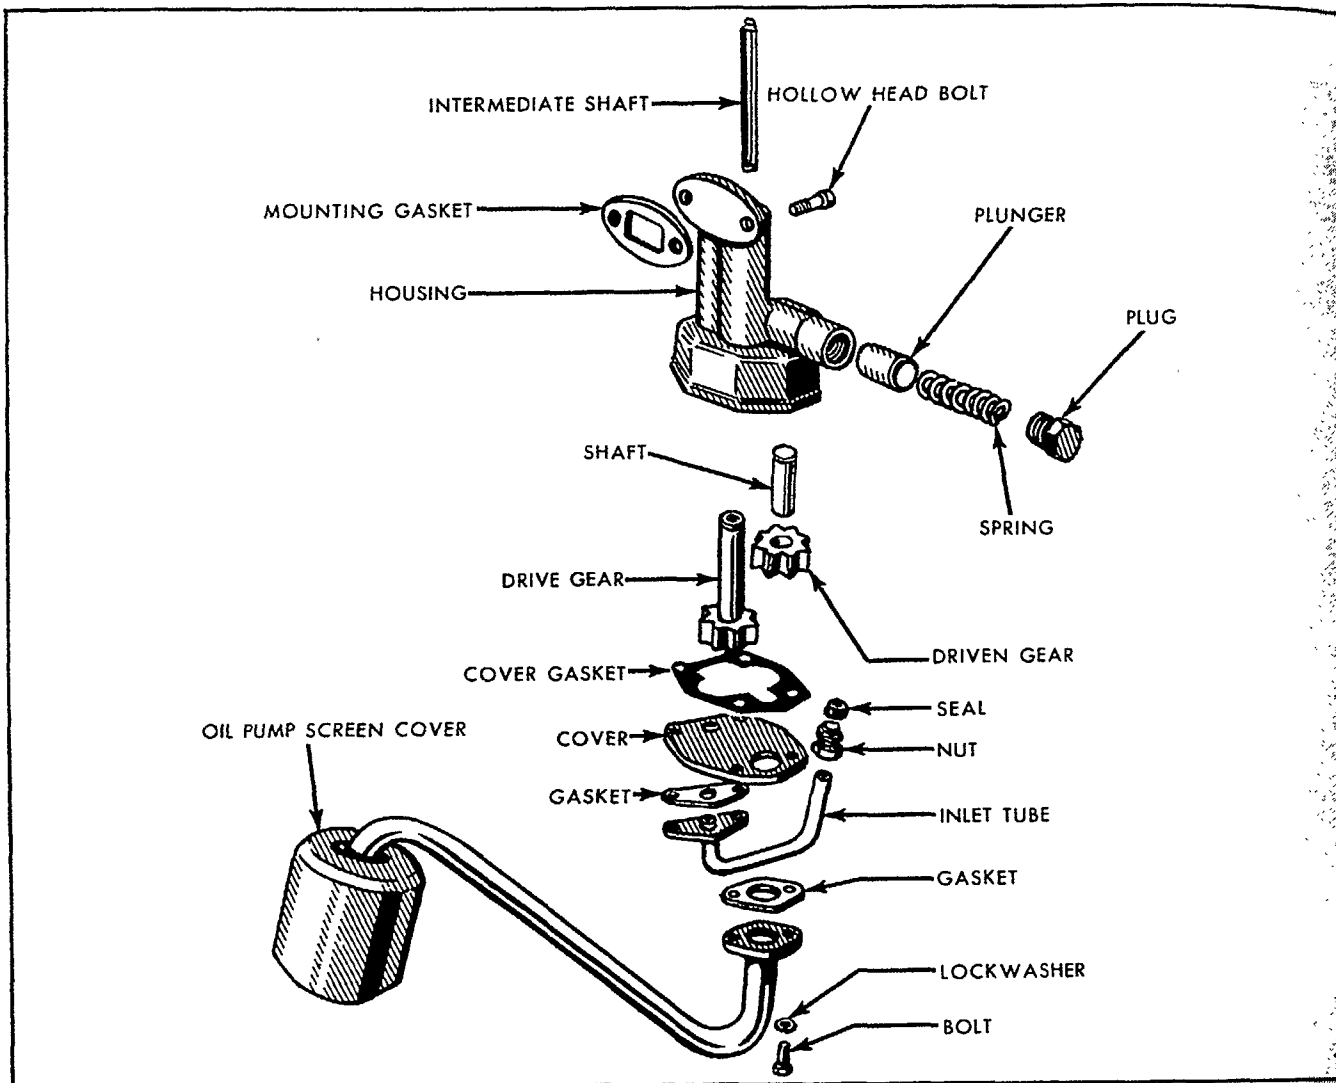

Figure 33—Oil Pump Disassembled
1. Remove the two bolts and washers that attach the oil inlet tube to the pump. Lift the tube, gasket, oil pump cover and cover gasket from the housing, Figure 33.
2. Install the pump relief valve plunger, spring and plug in the oil pump housing, Figure 33.